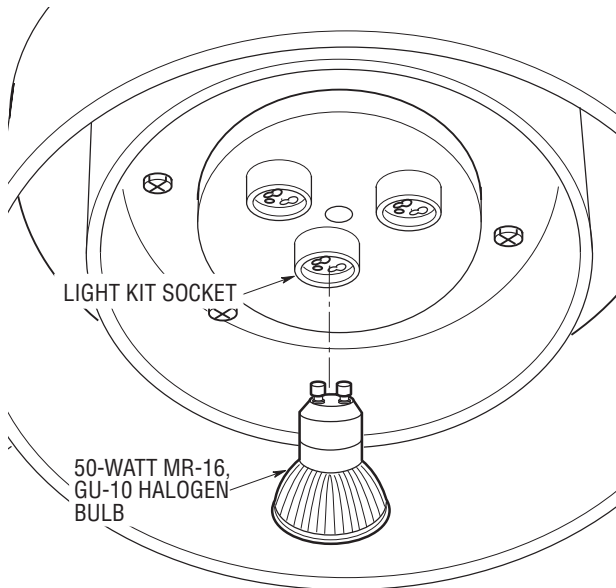

Figure 18
1. Do not touch the new 50-watt (maximum) MR-16, GU-10 bulb with your bare fingers; using a cloth or soft gloves to hold the bulb, gently push it into the socket and twist to lock the lamp into the socket (Figure 18). If there is any doubt that the bulb may have been contaminated by your touch, you should clean the bulb before its first use. Take a clean cloth dipped in a small amount of rubbing/isopropyl alcohol and gently brush off the bulb surface. If the lamp is hot, wait 30 minutes before cleaning.